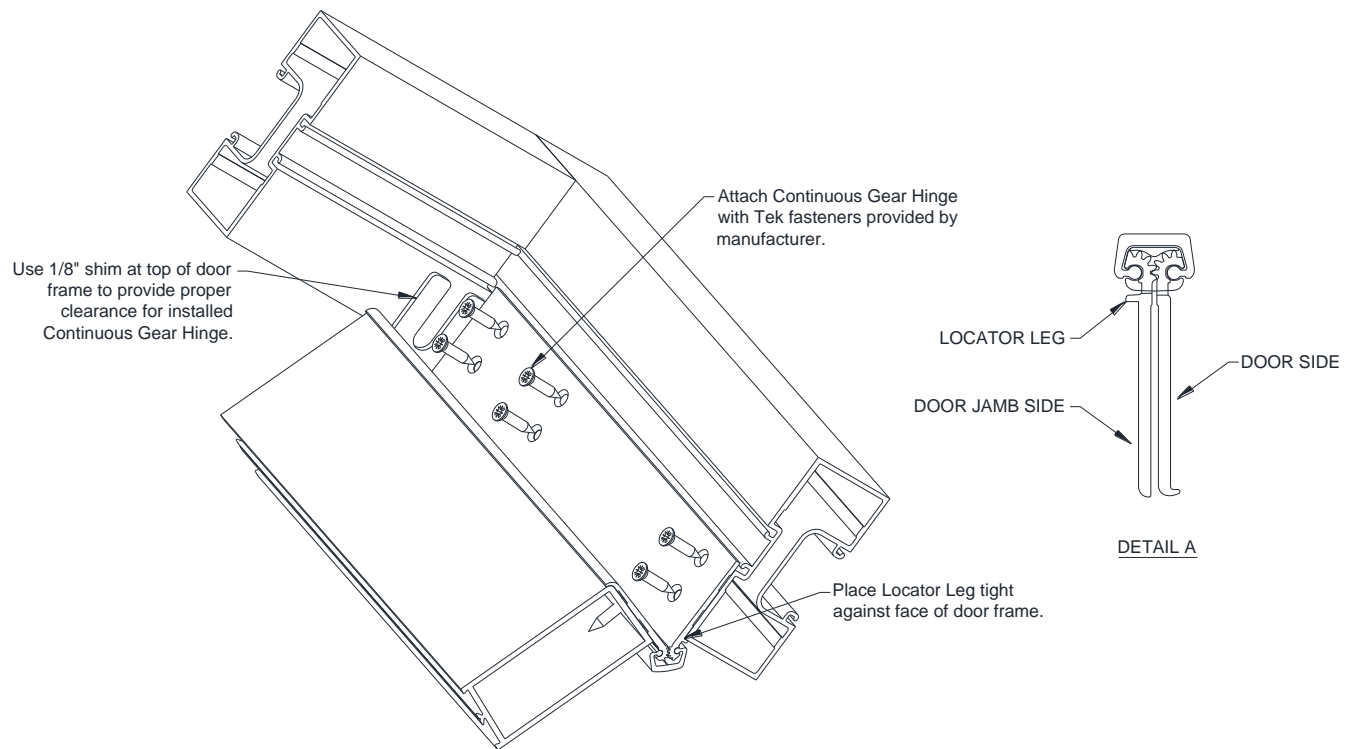

Figure 43: Hanging Door with Continuous Gear Hinge
- 15.2 Align Continuous Gear Hinge to Door Jamb by using the Locator Leg as a guide. Locator Leg is identified in *Figure 43, Detail A*.